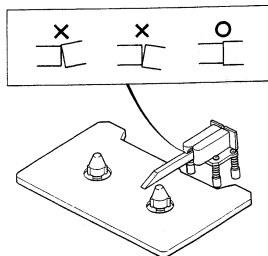

Fig. 4-5
3. Apply jig B to the head as shown in Fig. 4-5, to check tilt. If necessary, adjust screws E and F evenly (until the head is flush with the jig). Rotational amount of both screws E and F should be the same and be limited within 1/8 turn.
- 3). 図4-5の様に治具Bをヘッドに当てて、チルトを確認しヘッドが治具に対して垂直になる様に、ネジE, Fを同量(1/8回転以下) 回し調整する。
8. Apply jig B to the head as shown in Fig. 4-5, to check tilt. If necessary, adjust screws A and B *evenly* (until the head is flush with the jig). Rotational amount of both screws A and B should be the same and be limited within 1/4 turn.